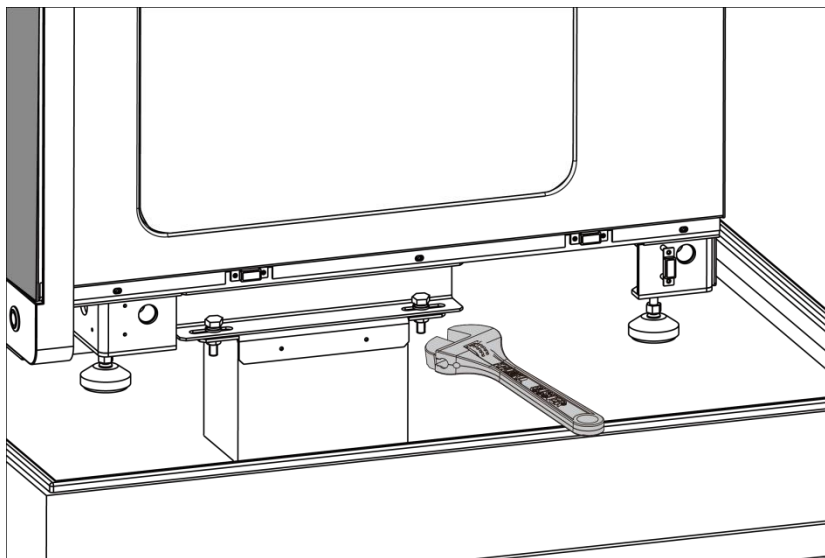

Figure 2-2b. Unscrew
**2nd Step:** Please unscrew the 4 screws fixed in two sides of the instrument by monkey wrench, as shown in figure2-2b.